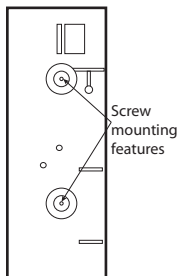

Figure 2
- 1 Place the base of the sensor in the desired location and secure with included screws (see Figure 2).
- 2 Drill hole through access hole, if needed (see Figure 2).
**WARNING! The polarity of the battery must be observed, as shown (see Figure 2). Improper handling of lithium batteries may result in heat generation, explosion or fire, which may lead to personal injuries. Replace only with the same or equivalent type of battery as recommended by the manufacturer (see Specifications).**